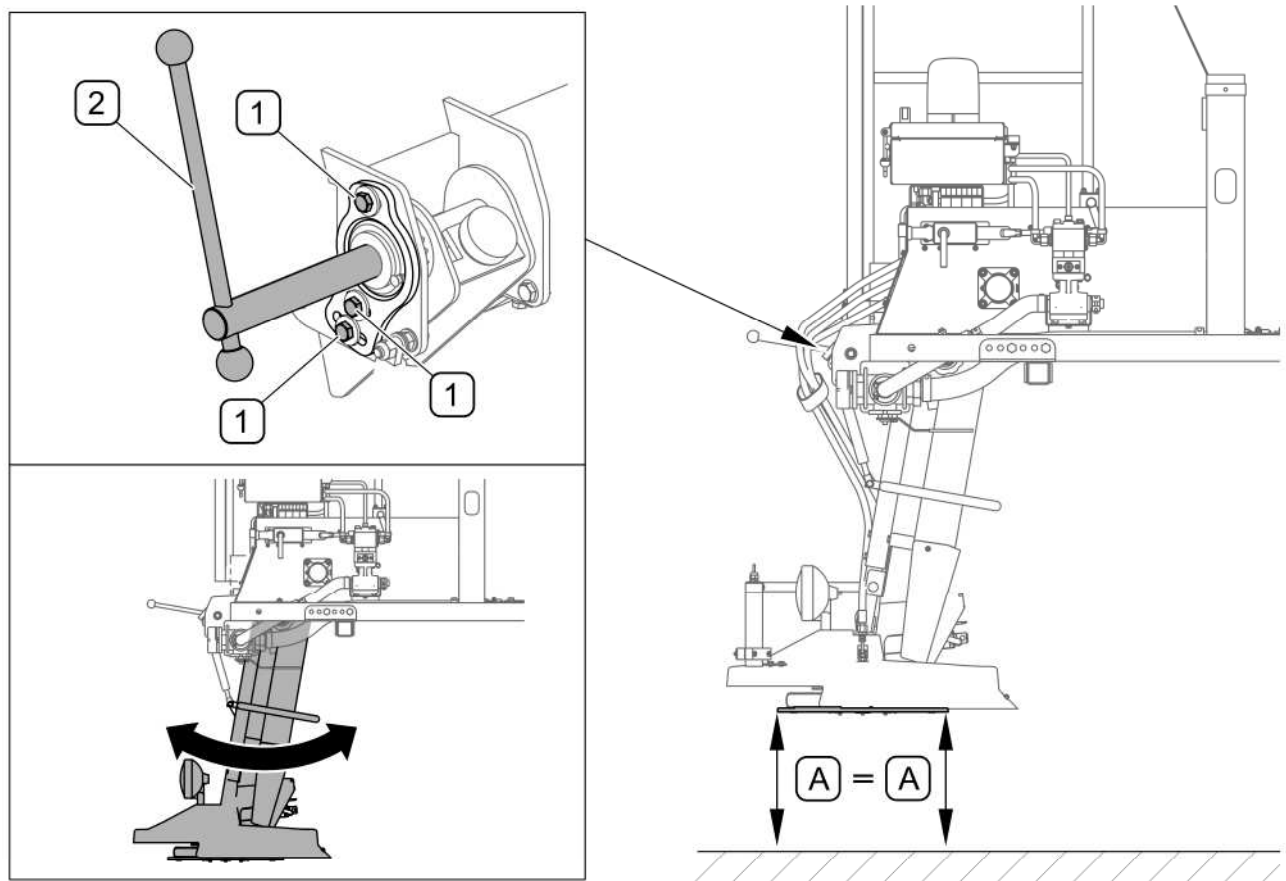

FIG. 4.11 **Levelling the spreading disc**
(1) - M10x35 bolt; (2) - clamp bolt;
During operation, the spreading disc should be levelled. To check that the spreading disc is level, measure the distances between the disc and the ground in two extreme points (A) to confirm that the distances are the same (FIG. 4.11). Otherwise, make adjustment as follows:
- check that clamp bolt (2) is tightened,
- loosen three bolts (1),
- shift the spreading mechanism forwards or backwards in order to set the spreading disc in such a manner that distances (A) are the same,
- tighten bolts (1).